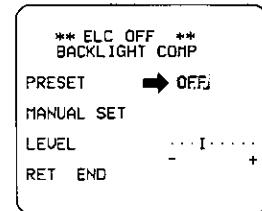

Fig. 49
- Press the Setup Mode Button (SET UP) to proceed to the Backlight compensation menu as shown in Fig. 49.